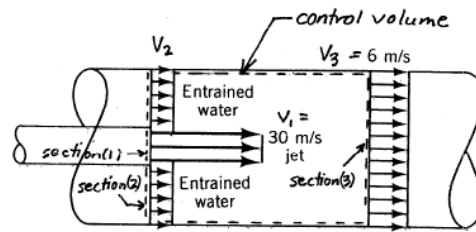

FIGURE P5.9
5.9 A water jet pump (see Fig. P5.9) involves a jet cross section area of 0.01 m^2 , and a jet velocity of 30 m/s . The jet is surrounded by entrained water. The total cross section area associated with the jet and entrained streams is 0.075 m^2 . These two fluid streams leave the pump thoroughly mixed with an average velocity of 6 m/s through a cross section area of 0.075 m^2 . Determine the pumping rate (i.e., the entrained fluid flowrate) involved in liters/s.